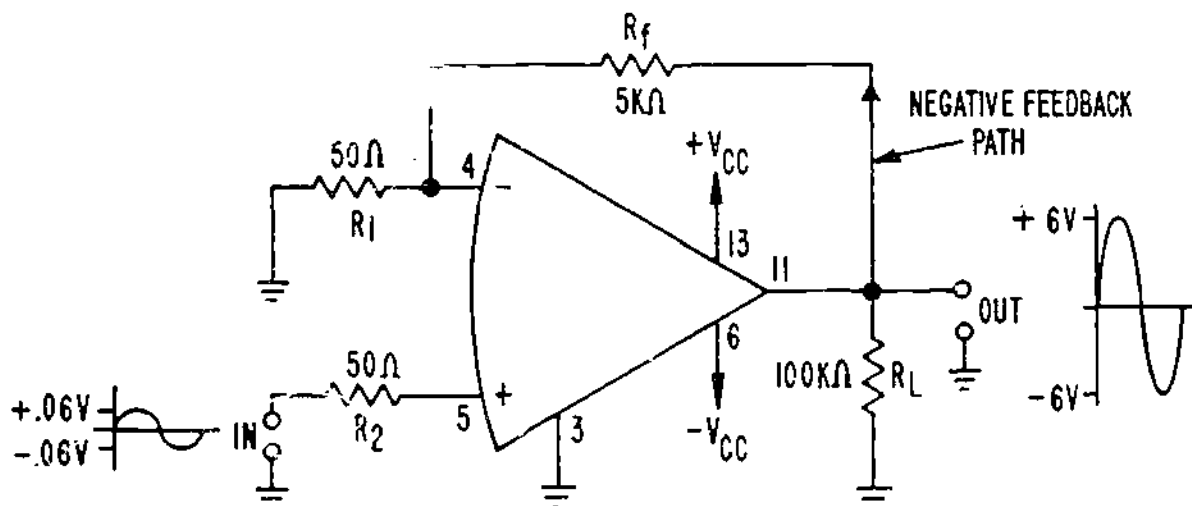
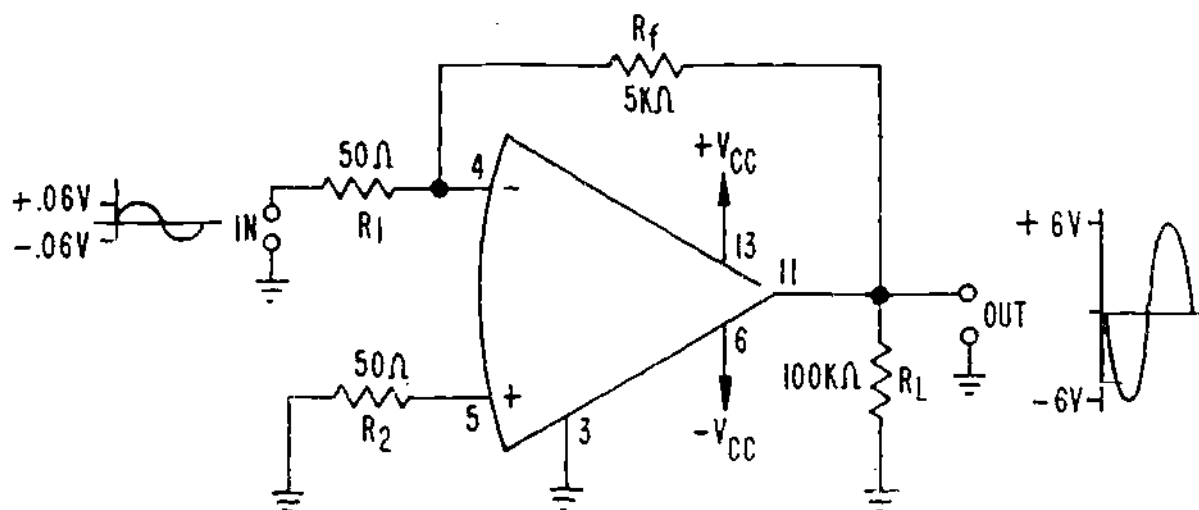

Figure 3
Figure 4
4. Now let's take a look at an IC opamp in a circuit. Look at Figure 3,
5. An IC opamp may also be connected as an inverting amplifier (input signal applied to inverting input) as shown in Figure 4.
Notice that the only change needed to make a non-inverting amplifier circuit (Figure 3) into an inverting amplifier circuit (Figure 4) is to reverse the ground and input connections. R_1 now becomes the input resistor and R_2 the bias resistor, as shown in Figure 4.